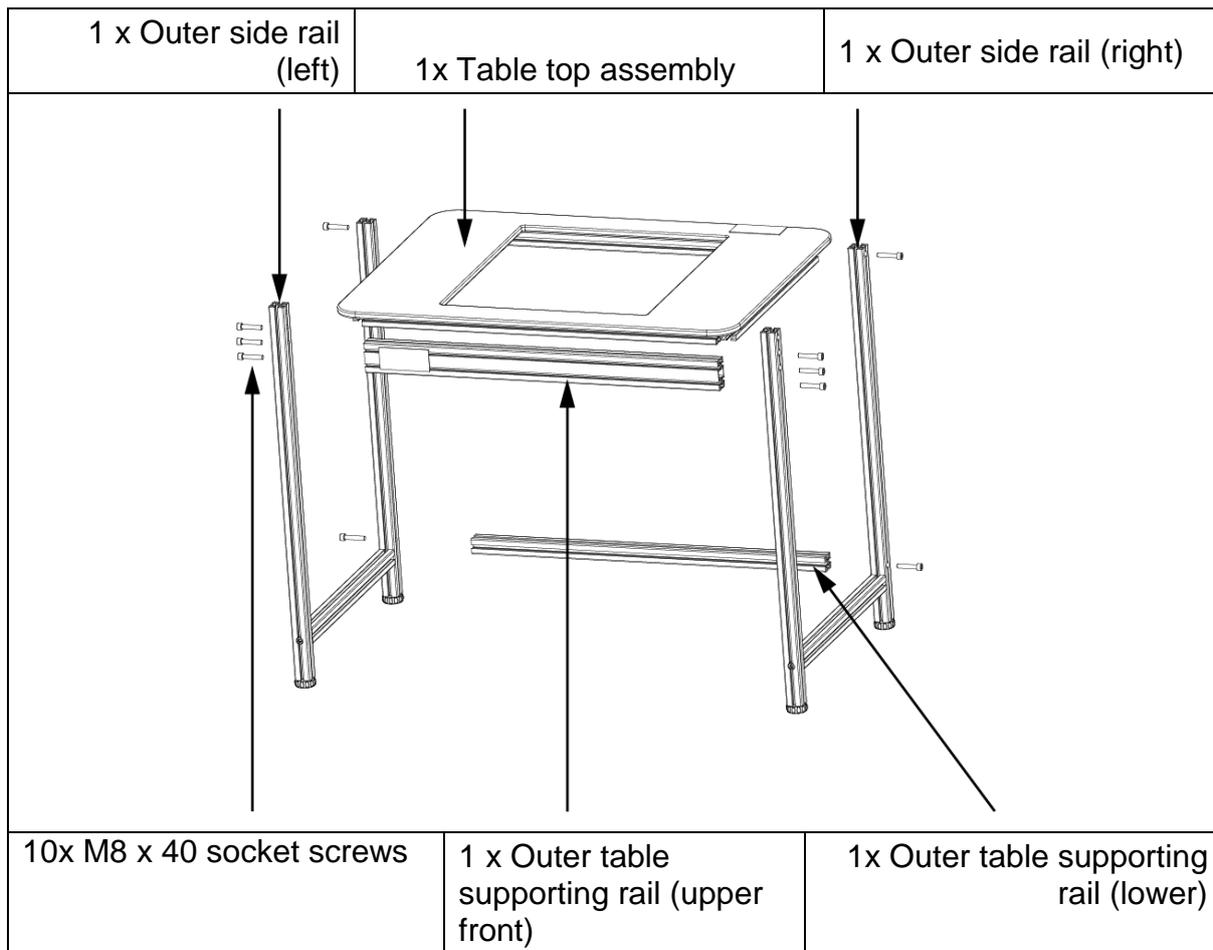

Figure 8
5. tighten the 10 screws as Figure 8 shows.